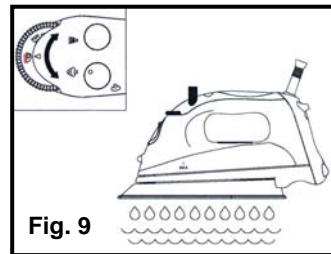

Fig. 9
5. Turn the variable steam control dial all the way to the right to the self-cleaning position and hold the iron horizontally over the sink. (Fig. 9).